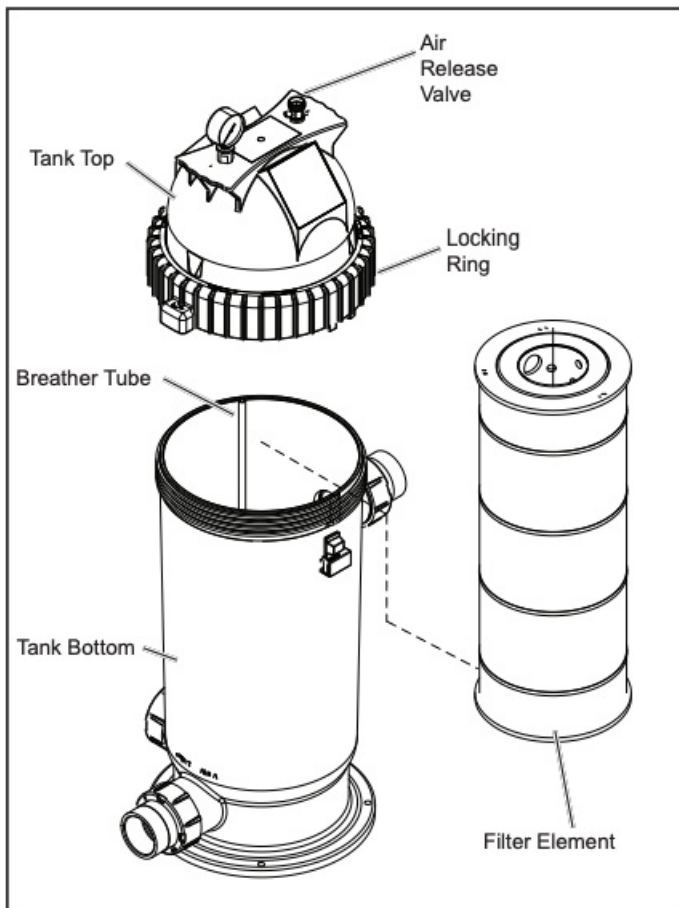

Figure 6. Filter Element Removal
2. Open air release valve on top of the filter tank to release all pressure from inside the tank and system, see Fig. 6. Close any filter isolation valves on the system to prevent flooding.